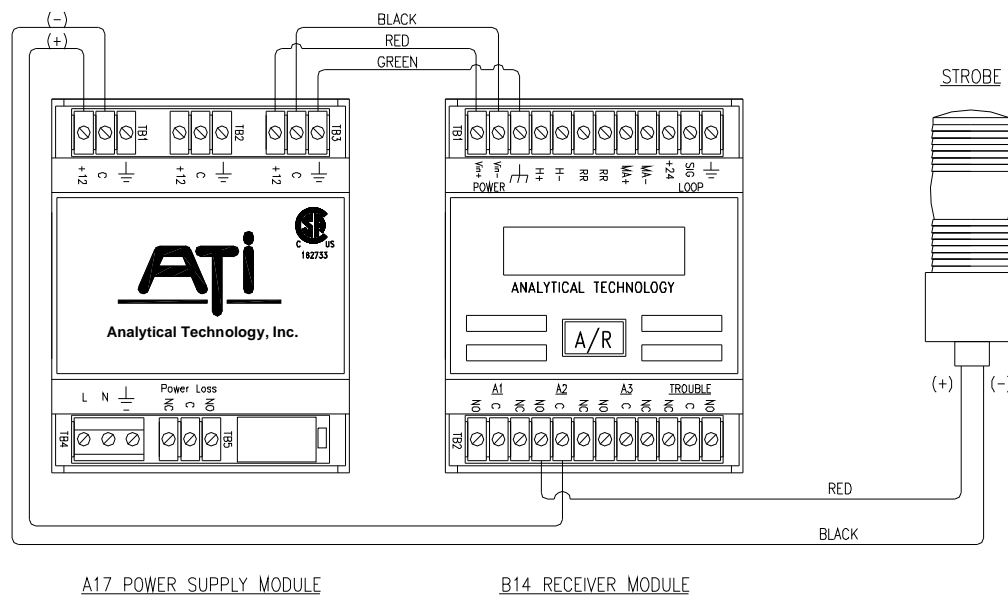

Figure 22: External Strobe Light Connections (ATI-0202)
The power to operate the strobe can be picked up from the power supply module which is part of the alarm unit. Figure 22 shows the typical wiring diagram for connection of the strobe. The wiring diagram shows the plus side of the supply brought to the common of the alarm contact, one side of the strobe wired to the normally open (NO) contact, and the other side of the strobe connected to the minus side of the supply. Connection of the strobe lamp directly across the alarm relay will not operate the strobe because alarm contacts are unpowered.